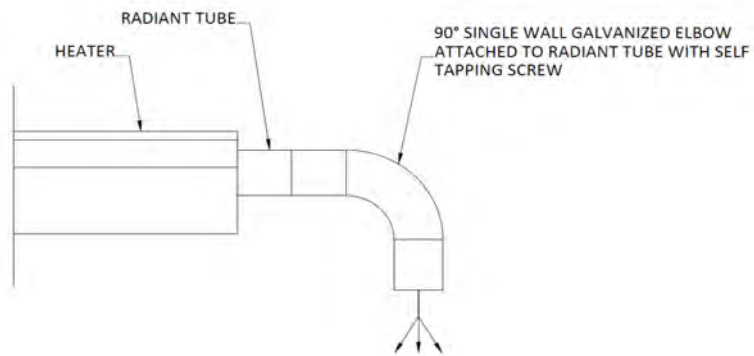

Figure 52. UNVENTED INSTALLATIONS
- 1) A 4" (10.2 cm) diameter by 90° elbow must be attached to the flue, vent or exhaust end of heater and turned down pointing towards the floor, see Figure 52.